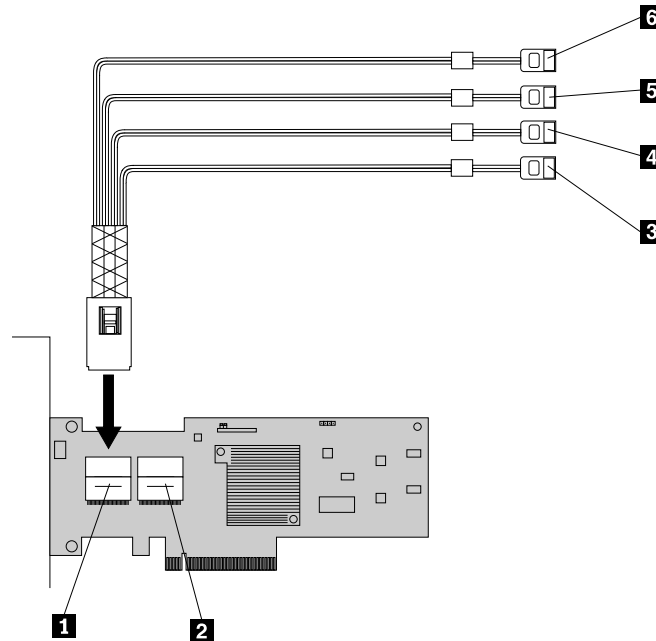

Figure 56. Connecting the mini SAS signal cables
7. Connect the mini SAS signal cable to the mini SAS signal cable connector 0 on the RAID card. See Figure 56 “Connecting the mini SAS signal cables” on page 90.